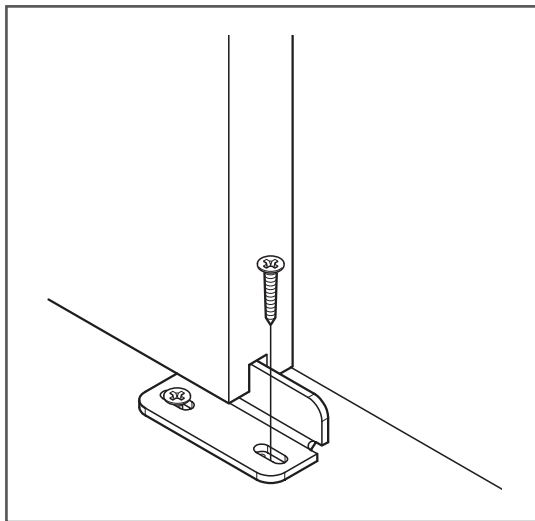

Figure 14
18. Install the second 1" phillips screw (E.) using a drill with a phillips bit (Figure 14).